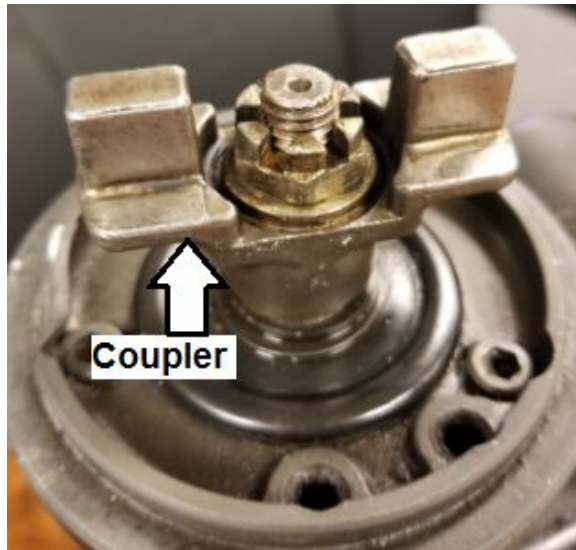

Figure 9: EA-19000 Coupler
- l. If using MTH p/n EA-19000, **Remove and save** the coupler from the magneto being replaced. See Figure 9 for picture of the coupler.
- a. Retrieve coupler from the magneto being replaced. See Figure 9.